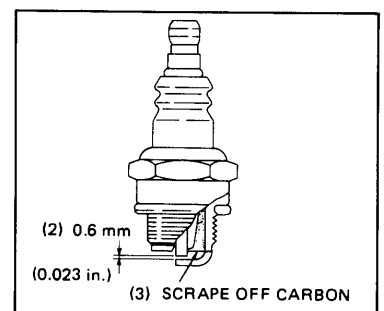

Fig. 17
2. Scrape off the carbon from the spark plug gap. (Standard gap is 0.6 mm or 0.023 in.). (Fig. 17)